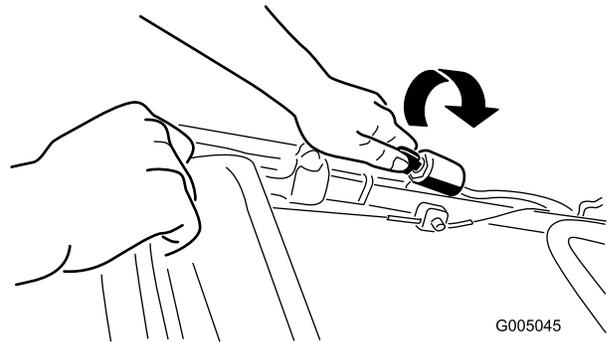
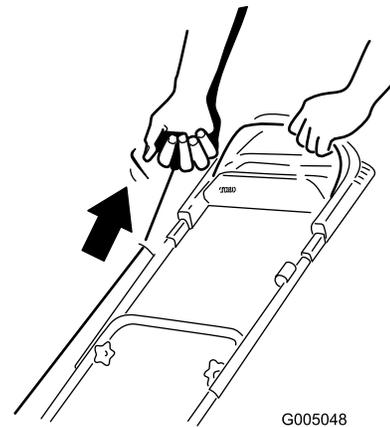

Figure 16
Figure 17
3. Turn the ignition key (Figure 16) (model 20067 only) or pull the recoil start handle (Figure 17).